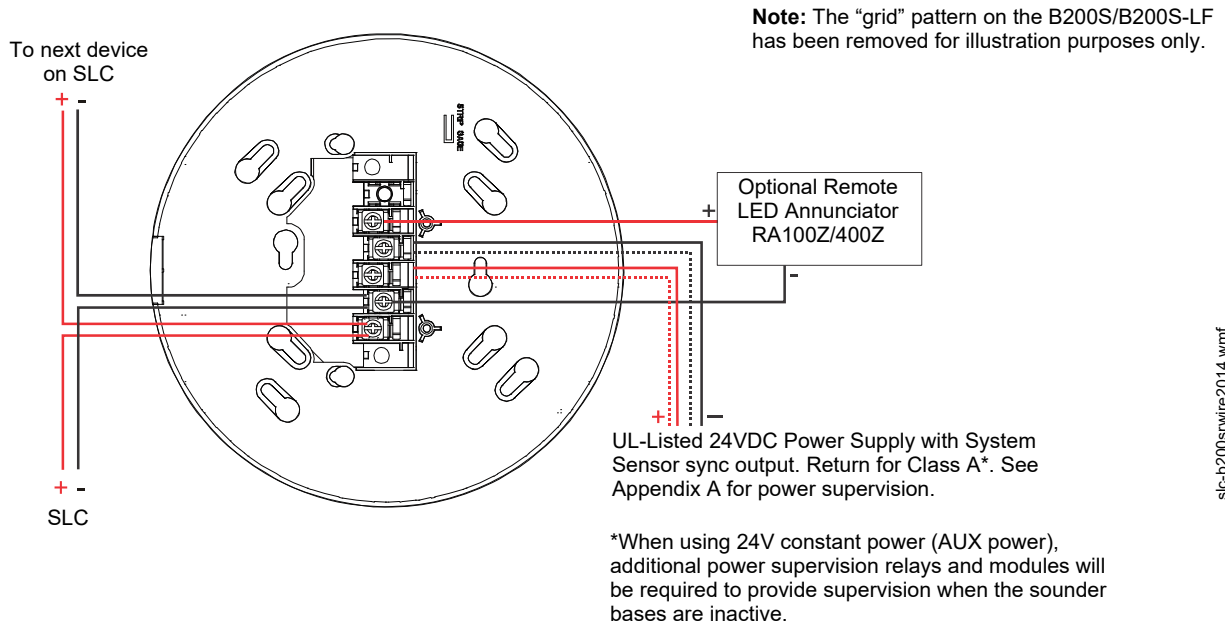

Figure 10.5 Wiring of the B200S/B200S-LF Sounder Base
- B200S-WH, B200S-IV: Intelligent sounder base (See Figure 10.5). (-WH is white; -IV is ivory).
- B200S-LF-WH, B200S-LF-IV: Intelligent low-frequency sounder base (See Figure 10.5). (-WH is white; -IV is ivory).
Figure 10.5 shows typical wiring of the B200S and B200S-LF Sounder Bases.